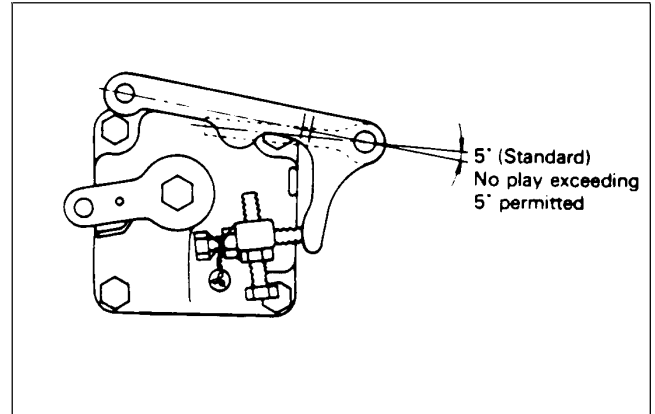

Figure 35
C. Install the governor spring lever and speed control lever so there is a minimum play of angle between levers (Fig. 35) .